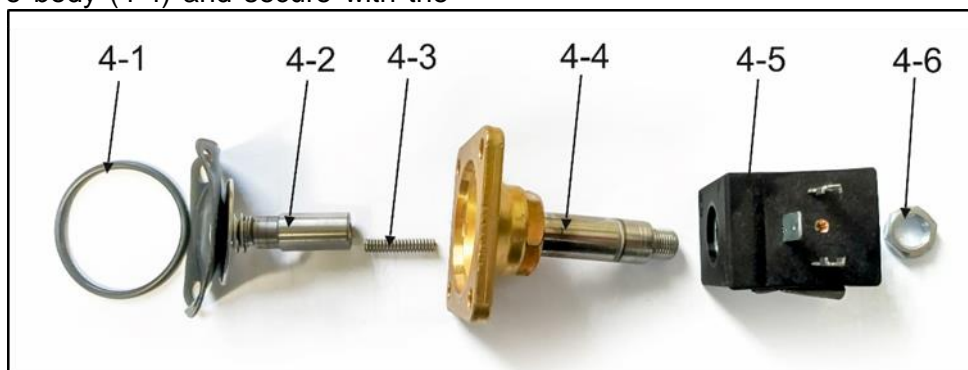

Fig. 32: Solenoid valve assembly
- Disconnect the valve connector (1).
- Unscrew the 4 screws (2).
- Remove the solenoid valve (3).
- Physically clean the 16 screws (2) to remove the thread locking adhesive.
- Install the solenoid valve (Fig. 32).
- Install the new solenoid valve using the 4 screws (2) and use a thread locking adhesive on the threads of the screws (such as Loctite 243).